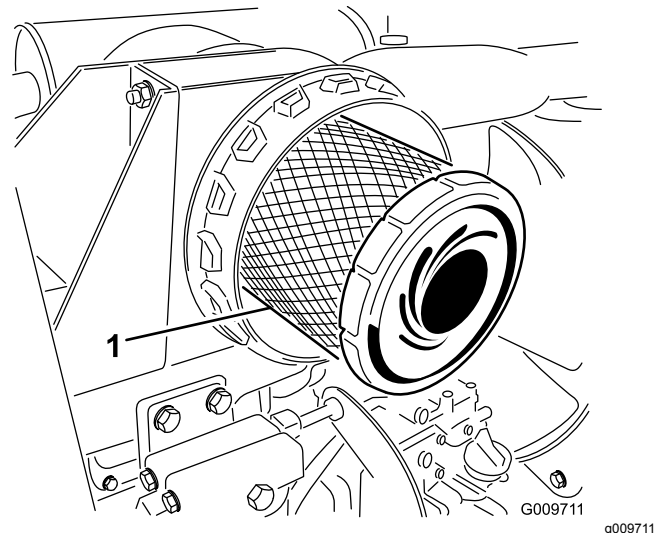

Figure 30
3. Remove and replace the primary filter (Figure 30).